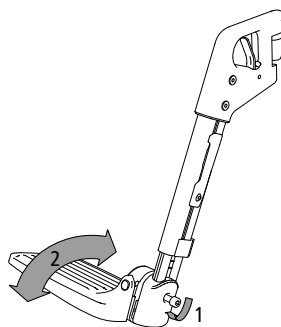

Fig. 33
2. To change the angle, first loosen the Allen screw and pull the foot plate slightly inwards until the lock is released. (1, Fig. 33).
3. Now adjust the foot plate to the desired angle (2, Fig. 33) then tighten the Allen screw again.